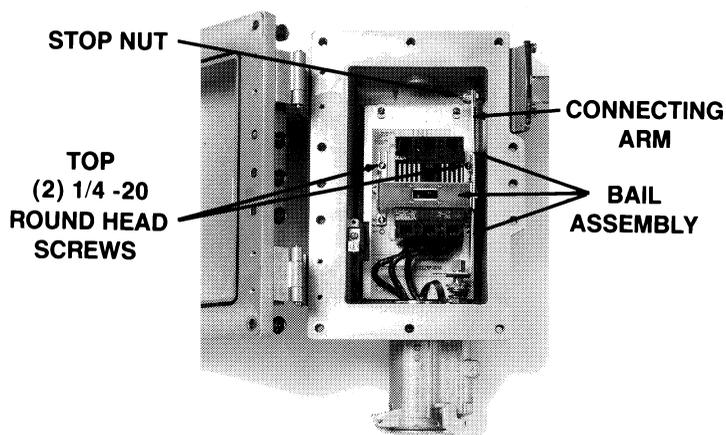
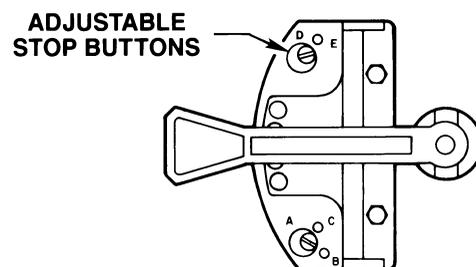

Figure 5
Figure 6
1. To loosen bail assembly, unfasten stop nut (see figure 5) (from shoulder screw) that joins the connecting arms together. Slide the longer connecting arm off the shoulder screw. [Do not remove hex nut that secures the shorter connecting arm to the threaded shaft.]
2. Loosen but do not remove the top two (2) 1/4-20 round head screws, which secure the bail brackets to the mounting plate. (See Figure 5)
3. Unthread the bottom two (2) 1/4-20 round head screws from the equipment mounting panel.
5. After circuit breaker is installed, reattach the connecting arms with shoulder screw and stop nut removed in Step 1. Check printed label on the longer connecting arm for hole alignment with the particular breaker manufacturer being used. (See Figure 5)
6. Reposition bail assembly over toggle arm of circuit breaker. At the same time slide bail brackets under the top two (2) 1/4-20 screws in the mounting plate.
7. Align bail assembly mounting holes (bottom two (2) 1/4-20 screws) over the holes in the equipment panel labeled for the manufacturer's circuit breaker you are installing.
8. Securely fasten all four (4) 1/4-20 screws on the bail assembly.
9. Visually inspect for proper alignment and actuate mechanism for correct operation. If necessary (to prevent over/under toggle travel and allow resetting of tripped breaker) adjust the circuit breaker stops as follows: (See Figure 6)
- Locate adjustable stop buttons in the appropriate holes for the specific breaker manufacturer to be used as charted below. (See Figure 6)